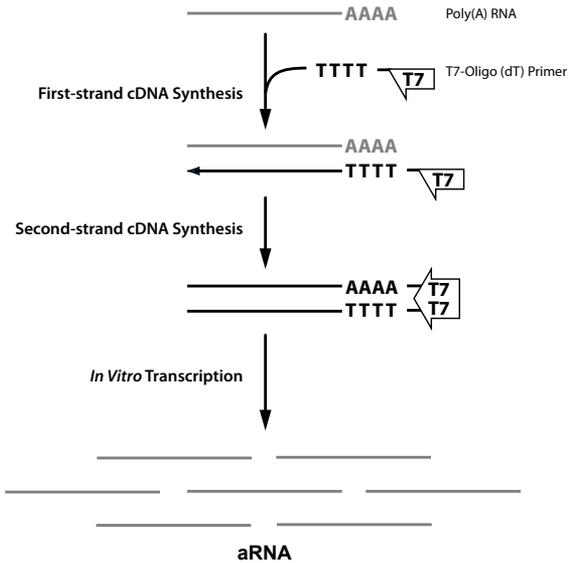

Figure 1. TargetAmp™ 1-Round aRNA Amplification Kit 103 Procedure.
- 1) Greater than 5,000-fold amplification of the Poly(A) RNA contained in a total RNA sample.
The TargetAmp™ 1-Round aRNA Amplification Kit 103 utilizes an improved “Eberwine” procedure¹ for amplifying Poly(A) RNA from as little as 25 ng of total cellular RNA. The kit has been developed for use with SuperScript III Reverse Transcriptase (Invitrogen; provided by the user). The complete TargetAmp 1-Round aRNA Amplification procedure can be completed in about 6 hours (Fig. 1).
1. **First-strand cDNA Synthesis:** The Poly(A) RNA component of a total RNA sample is reverse transcribed into first strand cDNA. The reaction is primed from a synthetic oligo(dT) primer containing a phage T7 RNA Polymerase promoter sequence at its 5' end. First strand cDNA synthesis is catalyzed by SuperScript III Reverse Transcriptase (provided by the user) and performed at an elevated temperature to reduce RNA secondary structure.